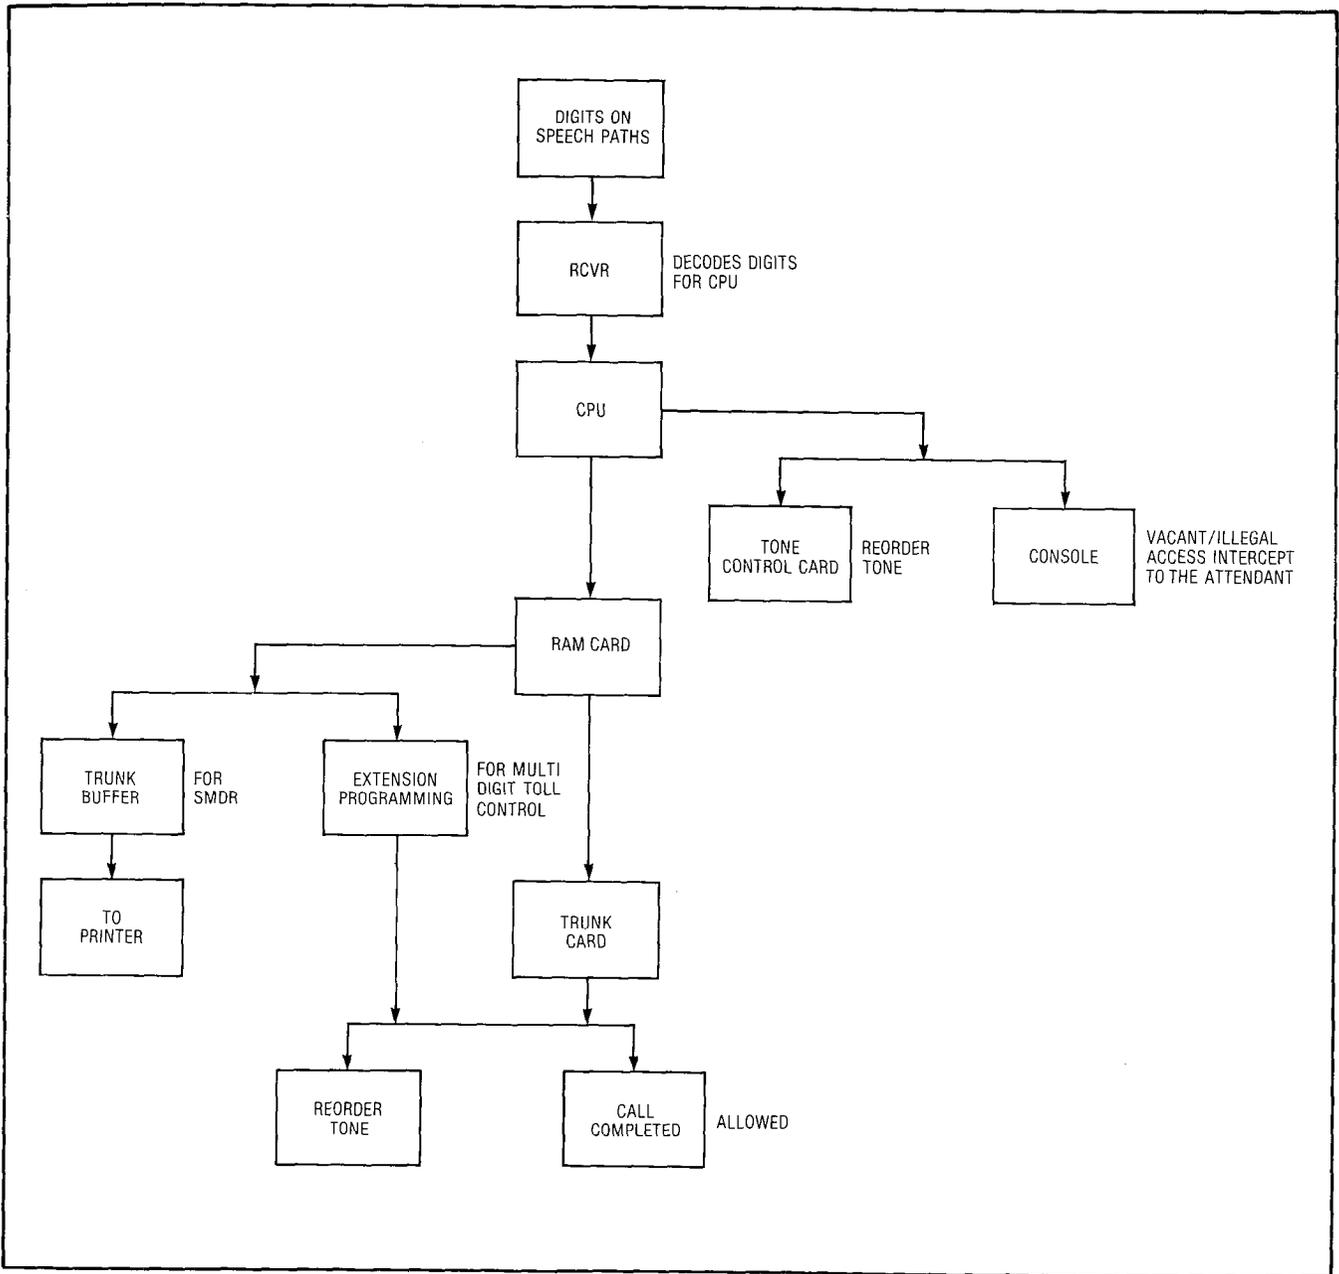

Fig. 5-5 Outside Call Multi Digit Toll Control or SMDR in Effect
5.07 For an Outside call, with SMDR or Multi Digit Toll Control in effect (Fig. 5-5) the extension must be assigned a speech path (paragraph 5.02) The CPU will then locate a free trunk according to the access code dialed (see Section MITL9105/9110-98-205). If there is not a free trunk, the CPU will connect busy tone (from the Tone Control card) to the speech path. The receiver will decode all digits for the CPU until the last digit or a maximum of 26 digits is dialed (Generic 203/down 20 digits). In the case of SMDR (Section MITL9105/9110-98-451) all digits dialed will be stored in a special trunk buffer until they may be output to a printer or similar device. In the case of Multi Digit Toll Control (Section MITL9105/9110-98-212) the CPU will consult its memory (PROM/RAM expander) to see if the digits dialed are permitted. If they are, the call will go through. If not, reorder tone (from the Tone Control card) will be returned to the extension, and the trunk will be released.